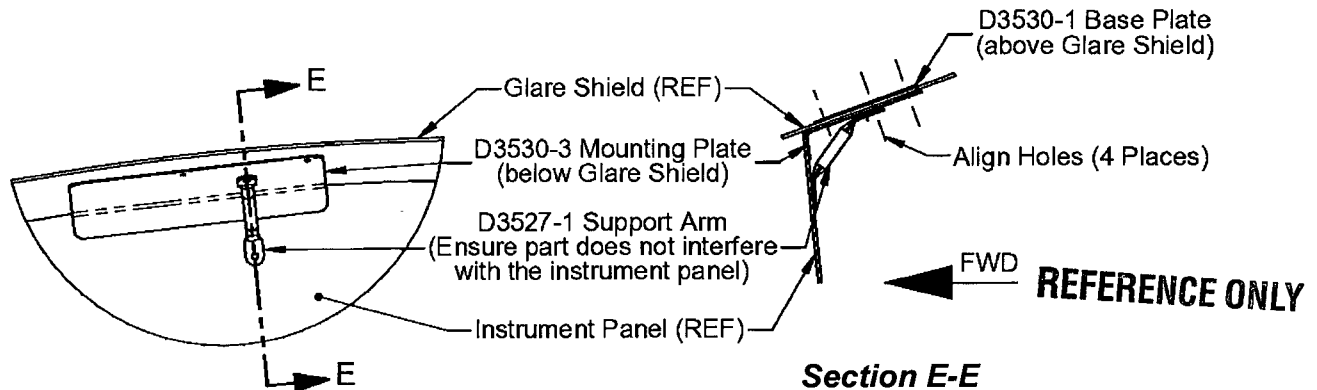

Figure 3.2.2 – D3530-1, D3530-3 and D3527-1 Alignment
- 3.2.2 Locate the D3530-3 Mounting Plate underneath the glare shield aligning the holes in the mounting plate with the holes in the D3530-1 Base Plate. Locate the D3527-1 Support Arm underneath the glare shield with one hole aligning with the larger #9 ($\varnothing 0.196"$) hole of the D3530-3 Mounting Plate and the other hole against the instrument panel as shown in **Figure 3.2.2**. Ensure that the mounting plate or support arm does not interfere with any instruments on the instrument panel.